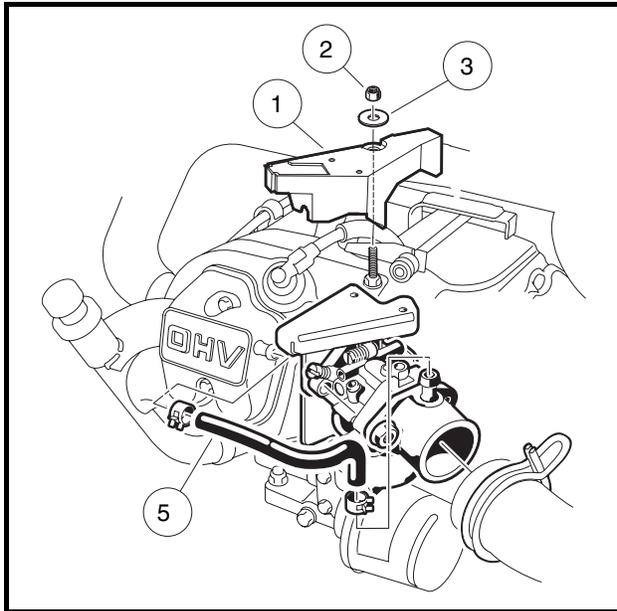

Figure 12-24 Governor Guard Removal
3. Remove the governor guard (1) (**Figure 12-24, Page 12-25**).
19. Place the governor guard (1) onto the throttle bracket and the 2-ended bolt. Install the two Torx screws (4) through the governor guard into the throttle bracket and tighten to 15 in-lb (1.7 N·m). Place the 3/8 flat washer (3) onto the 2-ended bolt and secure with nylon lock nut (2). Tighten the nut to 50 in-lb (5.7 N·m) (**Figure 12-24, Page 12-25**).